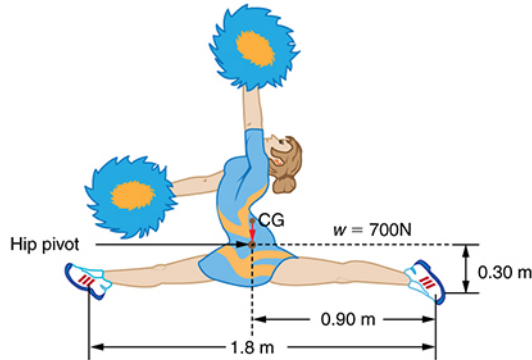

Figure 9.35 A gymnast performs full split. The center of gravity and the various distances from it are shown.
16. A gymnast is attempting to perform splits. From the information given in Figure 9.35, calculate the magnitude and direction of the force exerted on each foot by the floor.